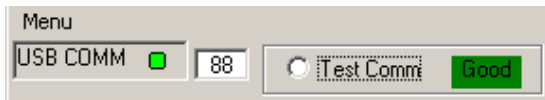
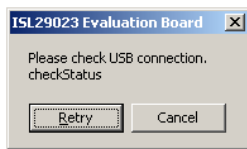

FIGURE 9. USB CONNECTION VERIFICATION WINDOW
FIGURE 10. USB CONNECTION ERROR
- **USB Communication (Software)** - Check to make sure the LED on the GUI next to “USB COMM” is green, as shown in Figure 9. If it is not green, please check your connection.
- **Test Communication** with the IC by clicking the button on the GUI shown in Figure 9; if it shows “Good”, then the Hardware and Software are properly set up; if it says “fail”, then check your connections. If the problem still persists, then you may want to restart the software. Figure 10 shows the error message that displays if the evaluation board is improperly attached.